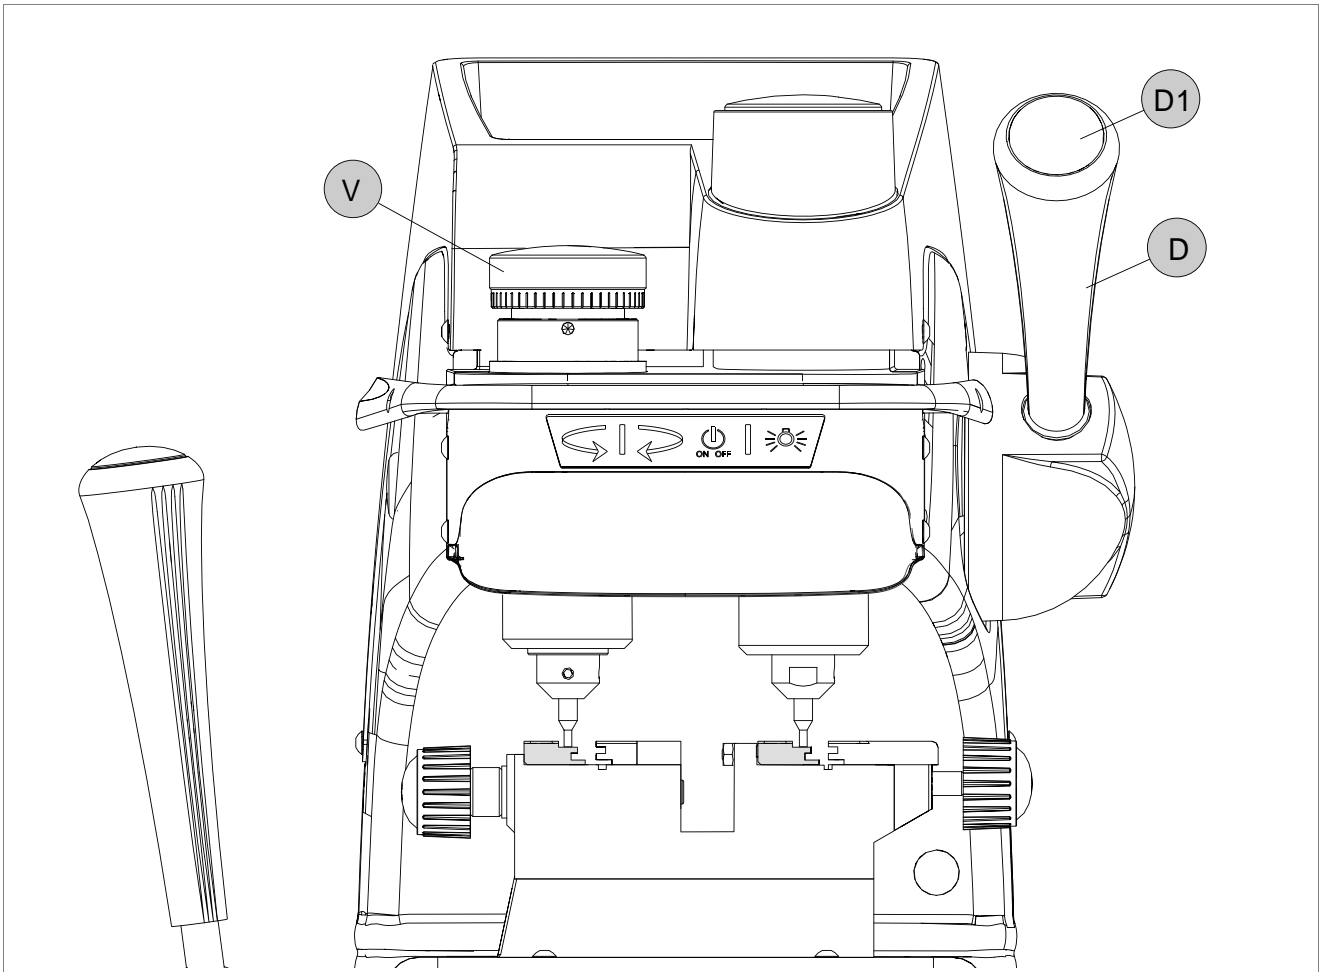

Fig. 19
- 3) Press the lever (D) release button (D1), lower the vertical carriage and take the tools into contact with the clamp surface (seat of the key) (Fig. 19). There are three possibilities: